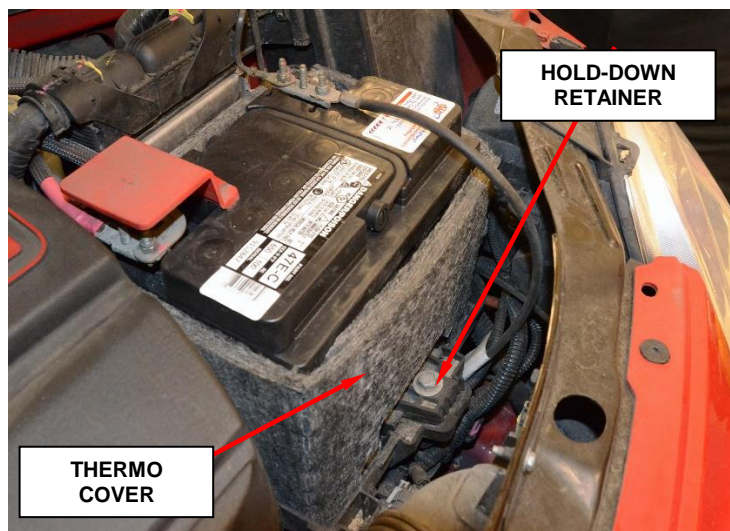

Figure 2 – Battery and Thermo Cover
8. Remove the battery thermo cover (Figure 2).
9. Remove the battery hold-down retainer (Figure 2).
27. Install the battery hold-down retainer (Figure 2).
28. Install the battery thermo cover (Figure 2).